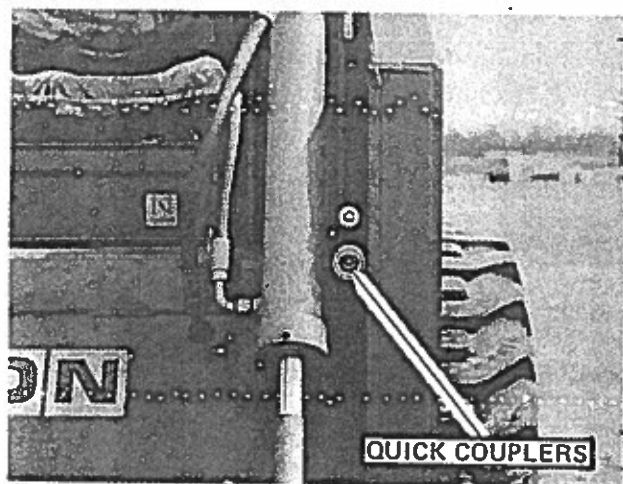

FIGURE 14
5. Connect accessory hydraulic hoses to quick couplers if so required. See **FIGURE 14**. Restart the engine.